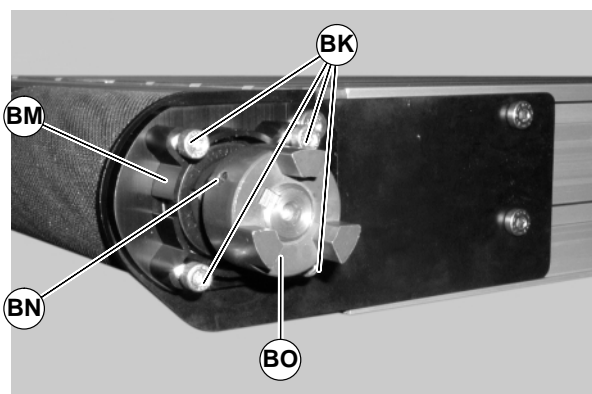

Figure 46
- 4) Remove the four (4) lock screws (BK of Figure 46) and the short side drive guard (BM).
2. Loosen set screw (BN of Figure 46) and remove 3-jaw coupling (BO).